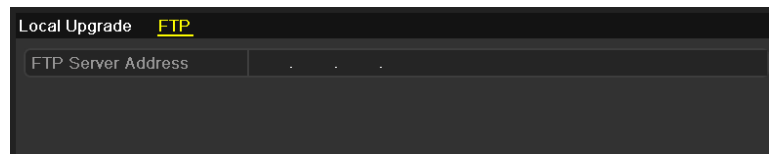

Figure 12.14 FTP Upgrade Interface
2. Click the **FTP** tab to enter the local upgrade interface, as shown in Figure 12.14.